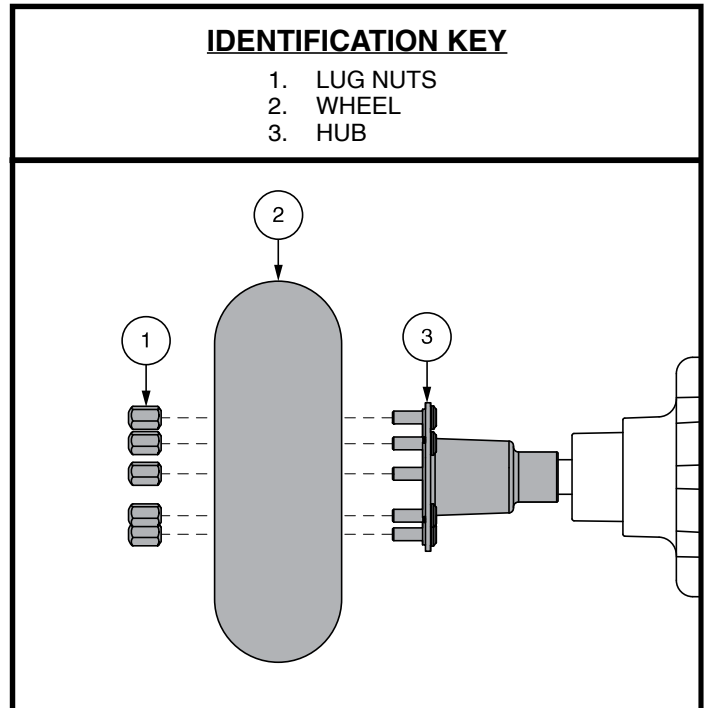

Figure 27. Wheel Replacement
4. Remove the lug nuts from the hub. See figure 27.